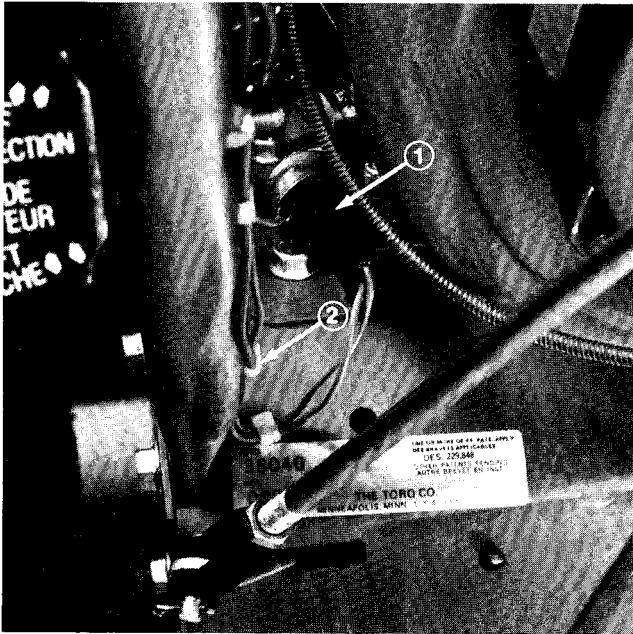

Figure 12
1. Plug handle wires firmly into plug on engine. (Fig. 12)
2. Push plastic retaining clip holding the wires into hole on top left of main frame (Fig. 12).